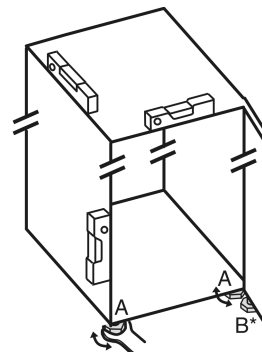

Fig. 4
- Unscrew the adjustable feet *Fig. 4 (A)* using the open-end wrench provided and a spirit level until the appliance is firmly aligned and level.
- Unscrew the adjustable foot *Fig. 4 (B)* at the swap bearing block using the open-end wrench provided until it rests on the floor.
- Turn the adjustable foot *Fig. 4 (B)* another 90°.